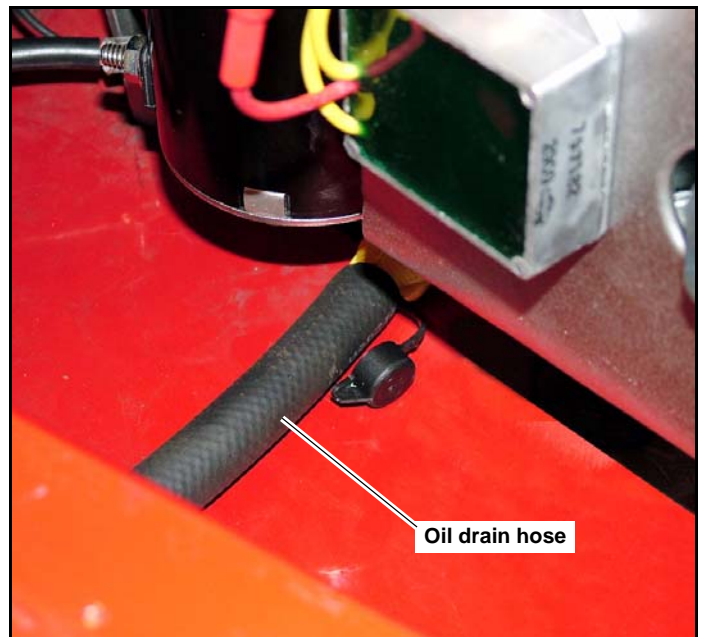

Fig. 4-4
4. Attach one end of the hose onto the oil drain valve nipple. Make sure the hose is pushed all the way onto the valve. Fig. 4-4